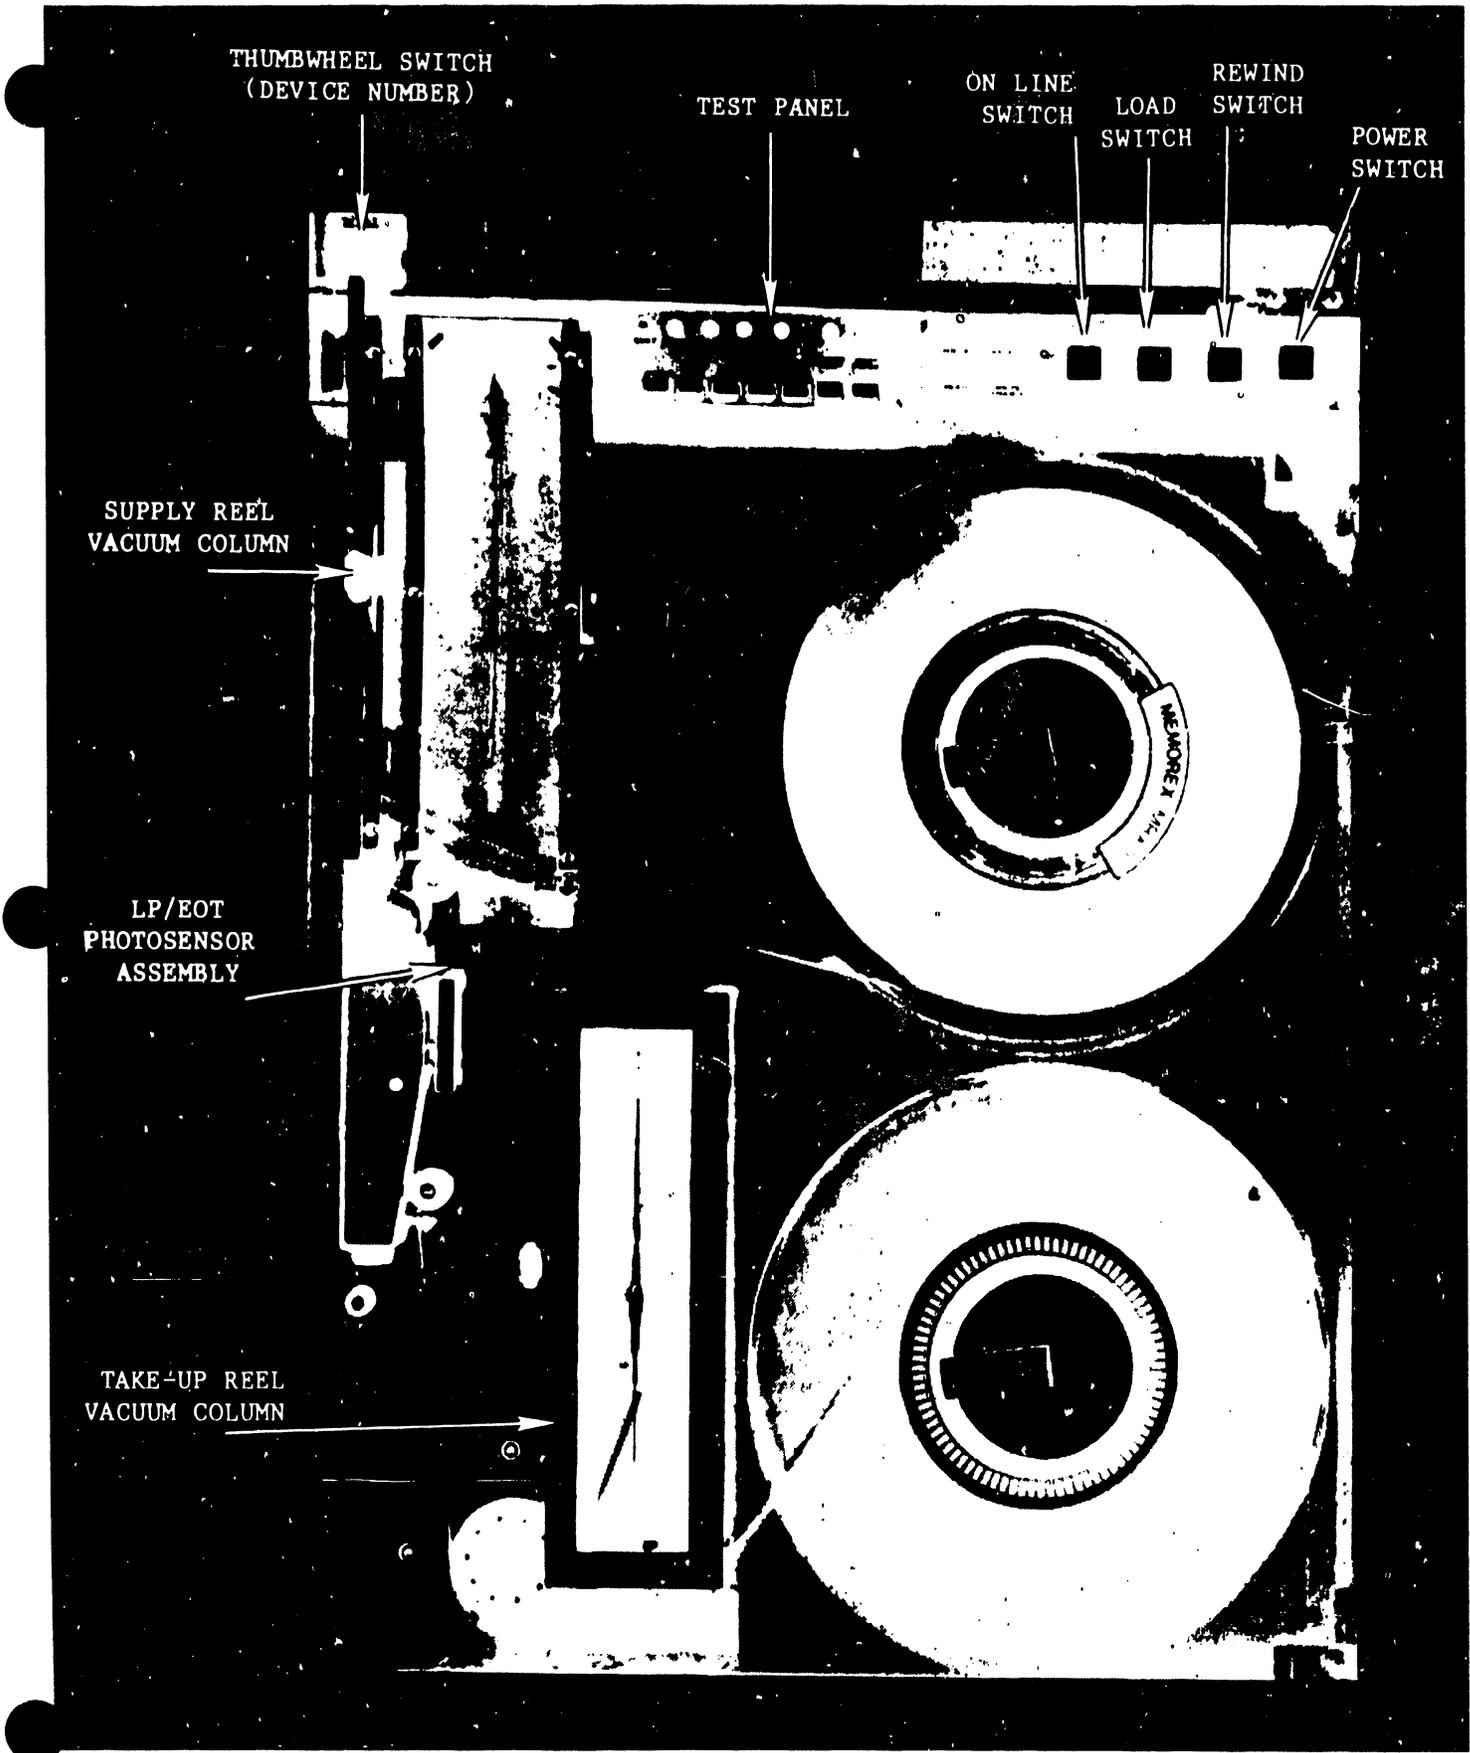
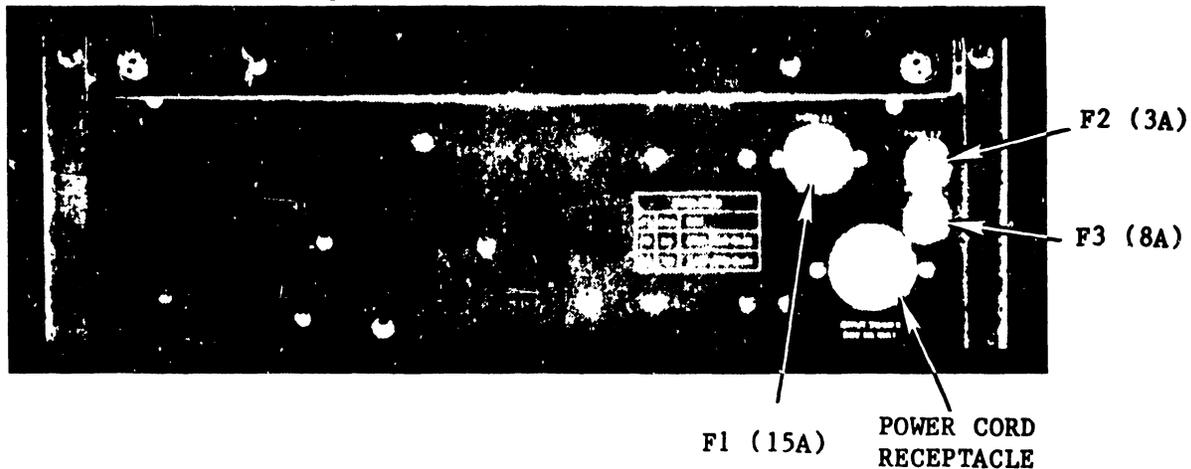

FIGURE 4-83 TAPE DRIVE FRONT VIEW
FIGURE 4-84 POWER CHASSIS (REAR OF TAPE DRIVE)
- (a) By setting the device number using the Thumbwheel Switch (Figure 4-83).
Make certain that the power switch on the front panel of the tape drive (Figure 4-83) is in the "OFF" position (not depressed). Ensure that the power cable is properly seated in its receptacle at the rear of the tape drive (Figure 4-84).
Connect the power cord connector to the AC receptacle provided at the site. Power-on the tape drive by means of the power switch. The power-on indicator should be illuminated, and the LP/EOT photosensor assembly light source should also be on (Figure 4-83).
Pressing the load pushbutton (Figure 4-83) on the front panel of the tape drive energizes the reel servos and initiates a load sequence. Tape advances to the load point marker and stops. If for some reason the load point marker is already past the sensor (for example, in restoring power after a shutdown), the tape continues to move for approximately 6 seconds, and then an automatic rewind is initiated. Once pressed, the load switch becomes inactive until the power has been turned off or until the tape is removed from the machine.